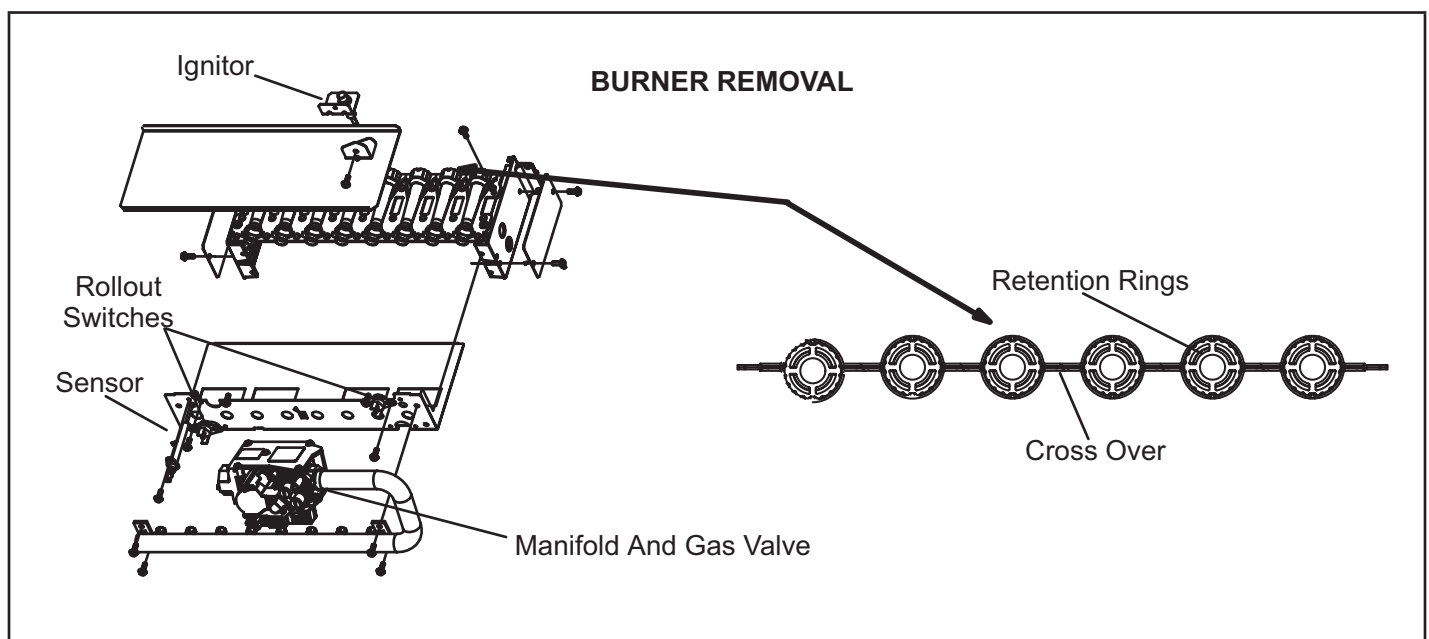

FIGURE 37
- 4 - To clean burners, run a vacuum cleaner with a soft brush attachment over the face of burners. Visually inspect inside the burners and crossovers for any blockage caused by foreign matter. Remove any blockage. FIGURE 37 shows burner detail.